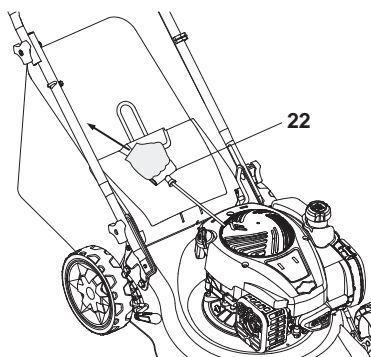
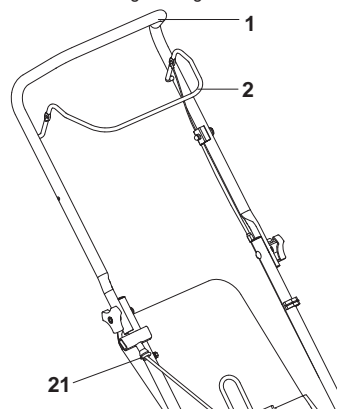

Fig. 12
Fig. 13
1. Pull the brake bar (2) towards the Upper handle bar (1).
2. Slowly pull on the recoil starter handle (22) (Fig. 12) and fit it into the rope guide (21) on the right hand side of the lower handle (6) during operation (Fig. 13). Do not remove the rope from the rope guide when starting the engine.